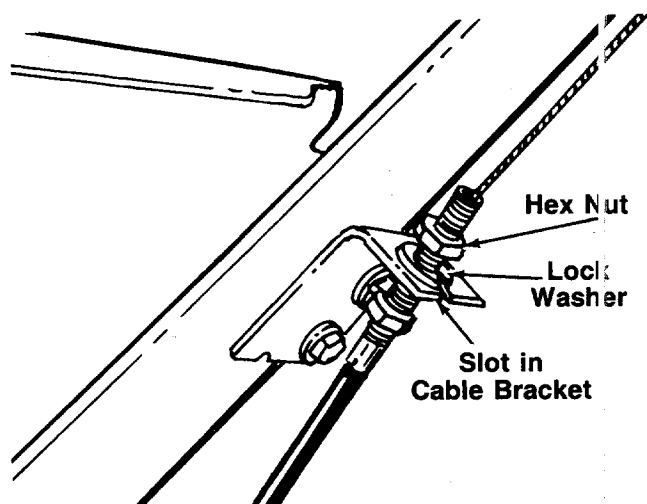

FIGURE 9.
Both the drive clutch cable and the tine clutch cable are attached to springs, which are hooked to weld bolts as shown in figure 9. If either the cable or spring has come loose in shipping, it must be reassembled. Refer to page 18, reference numbers 1, 2, 89 and 98.
1. Remove one nut and the lock washer from the end of the drive clutch cable (short cable). Slip the cable up through the slot on the cable bracket on the right handle. Rethread hex nut and lock washer on the end of the cable. See figure 9. Do not tighten at this time.